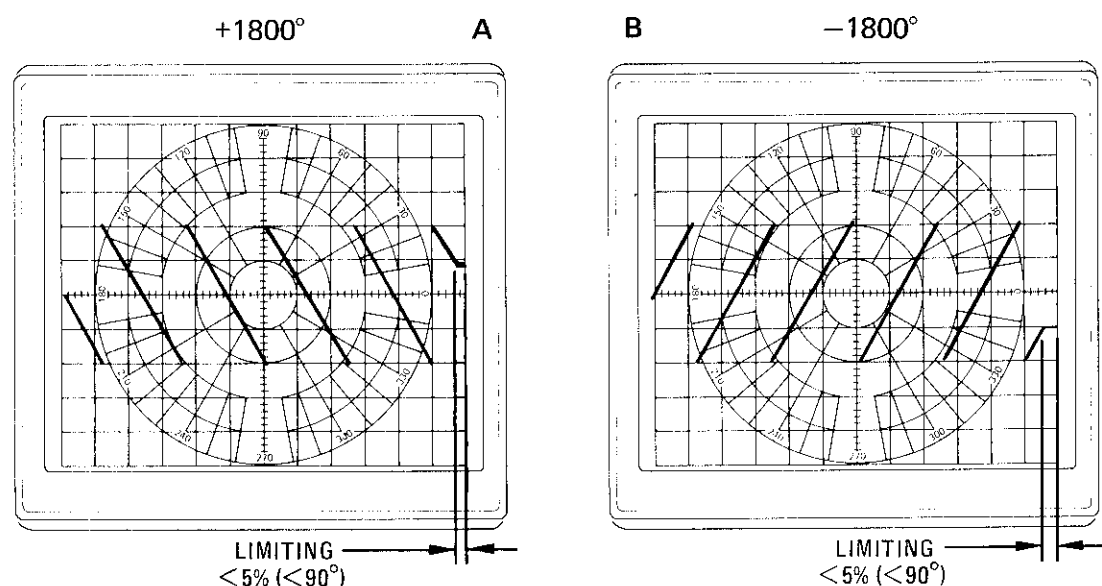

Figure A2-23. Phase Trace with Maximum Electrical Length Added
- o. With ELECTRICAL LENGTH offset pushbuttons, put in +1800 degrees of electrical length. (The electrical length readout displays +180.) Verify that five transitions are displayed and that the linear phase display limits over approximately the last 5% of the trace. (See Figure A2-23, Photo A.)
- q. With ELECTRICAL LENGTH offset pushbuttons, put in  $-1800$  degrees of electrical length. (The electrical length readout displays  $-180$ .) Verify that five transitions are displayed and that the linear phase display limits over approximately the last 5% of the trace. (See Figure A2-23, photo B.)